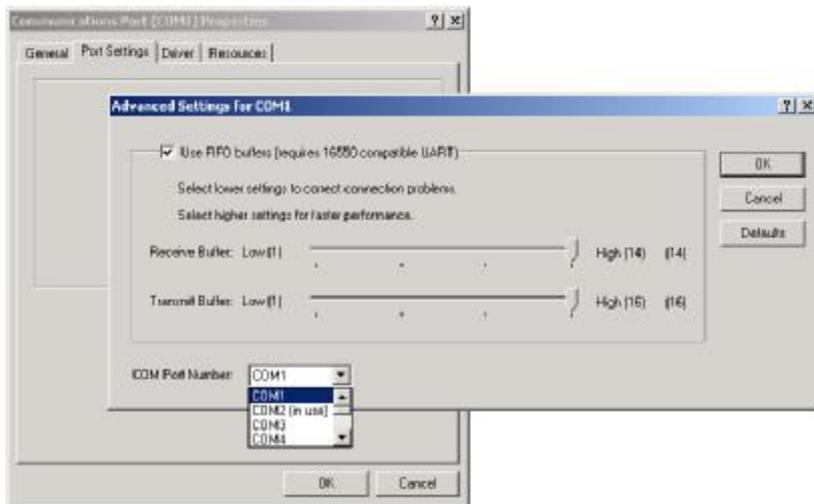

figure 4
- 3) Revise the “COM Port Number” in “Advanced Settings for COM1”(as figure 4).